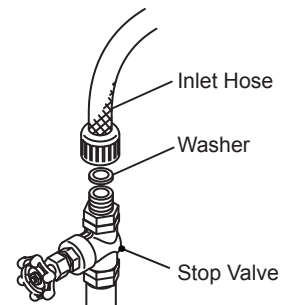

Fig. 4
- 1) Attach the free end of inlet hose to the stop valve (Fig. 4), noting washer is correctly positioned. Hand tighten sufficiently to provide leak free joint. It is a wise precaution to have the stop valve within easy reach.
- 4) Close the potable water supply line Stop Valve. See Fig. 4.